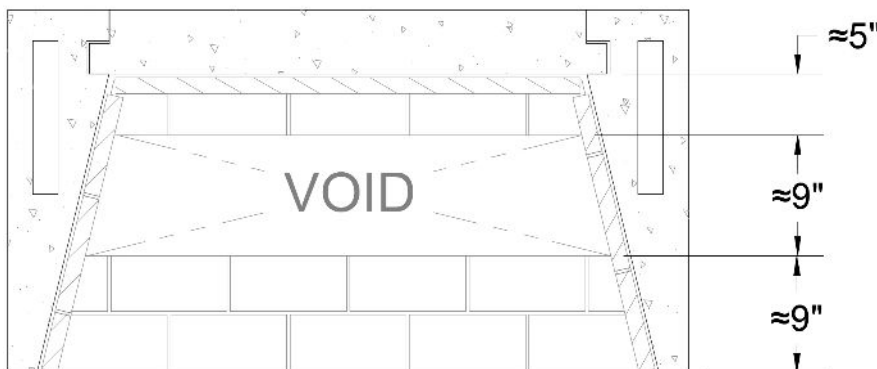

FIGURE 44
- 3) The burner cavity must have a height of 2-1/2", a depth of approximately 8-3/4", and the length shall extend the entire length of firebox. **(Table 5; Figure 44 & 45)**